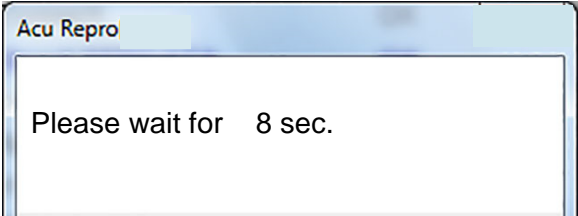

Figure 9
- 13. The countdown screen in Figure 9 will appear after selecting **OK** in step 12.